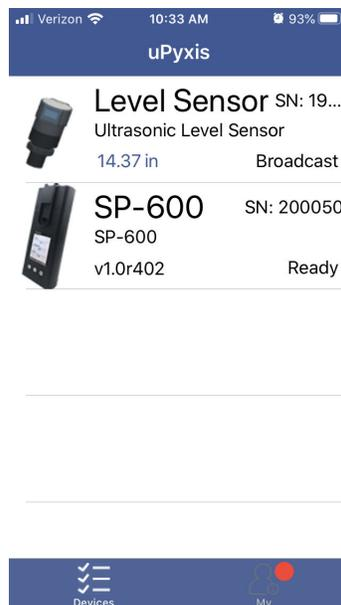

Figure 61.
4. If the connection is successful, the SP-600 and its Serial Number (SN) will be displayed (Figure 61).